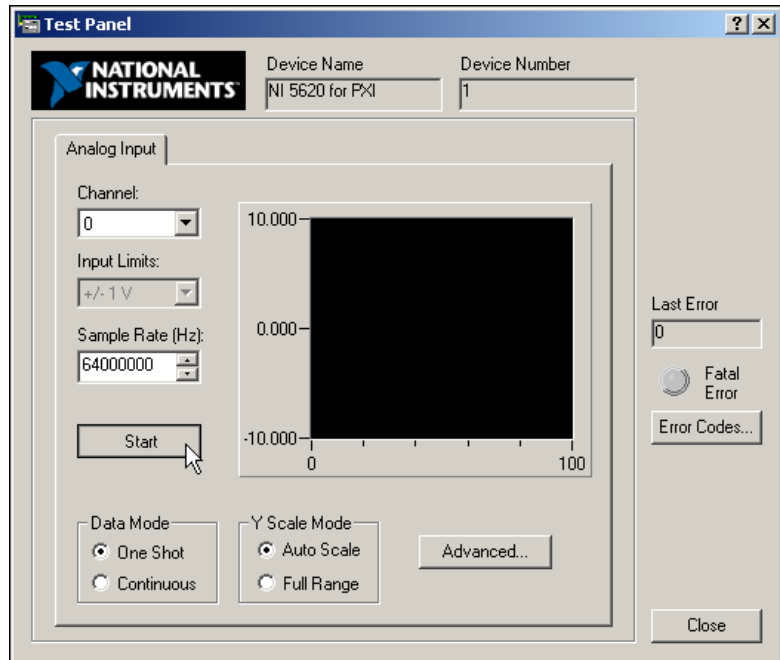

Figure B-3. Click Start to Run the NI 5620 Test Panel
7. Click **Start** as shown in Figure B-3 to run the NI 5620 test panel.